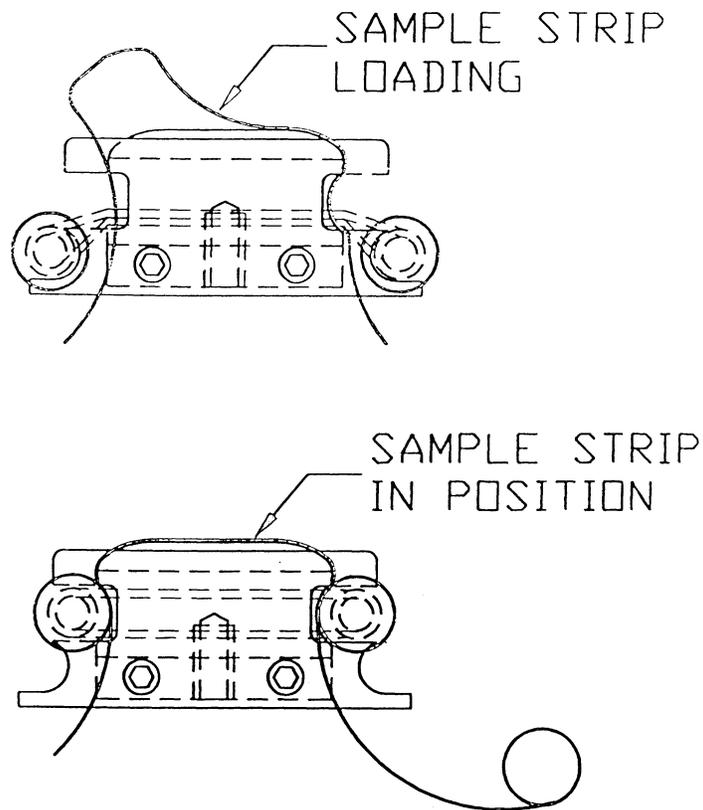

Figure 8
1. To load a sample strip, pull the rollers straight outward and down to lock in open position. Place long end of the strip between the back roller and the plate. Place the other end between the front roller and the plate. Release (close) both rollers. Take up slack by rotating the knob forward (Figure 8).